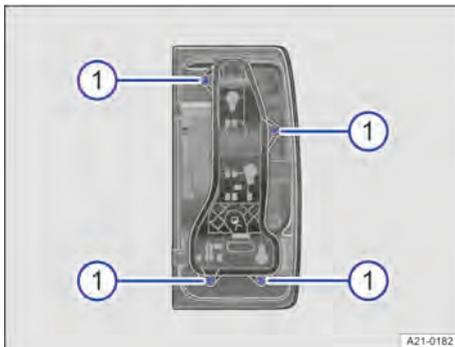

Fig. 161 On the tail light cluster: releasing the bulb holder.
7. Use the screwdriver to unscrew four screws from the bulb holder → Fig. 161 ①.
10. Insert the bulb holder into the tail light cluster and screw tight → Fig. 161 ①.